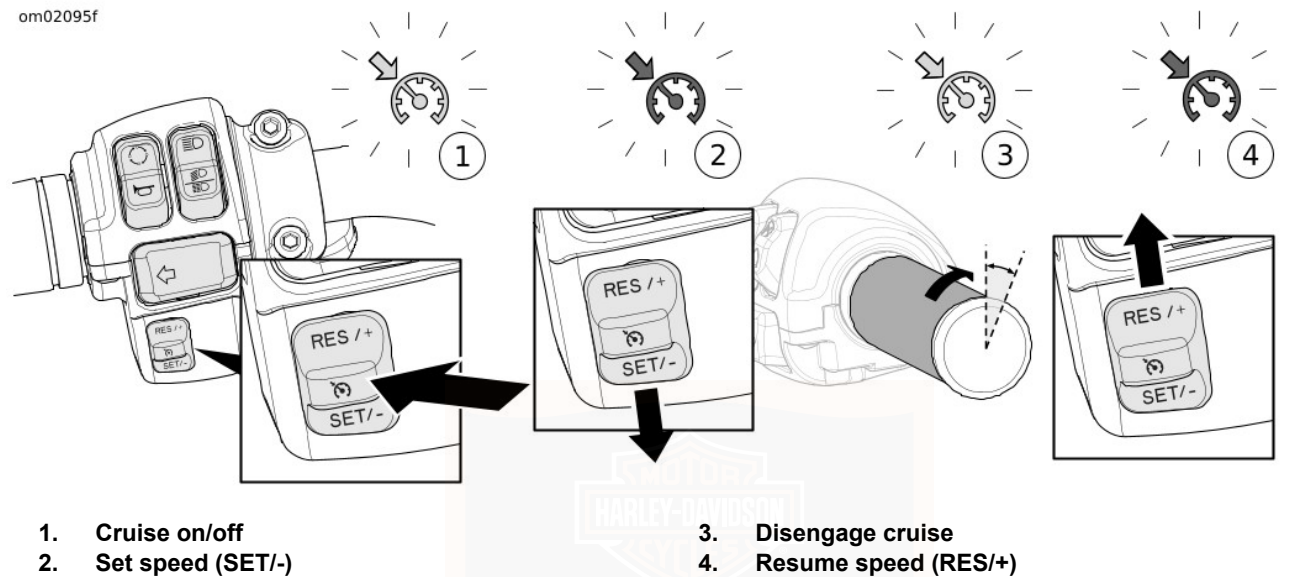

Figure 41. Cruise Control
See Figure 41. Press the CRUISE switch to turn on cruise (1). When on, the cruise icon in the speedometer face glows amber.
See Figure 41. When the motorcycle reaches your intended speed, press the SET/- switch to set the cruise speed (2). The amber cruise icon changes to green.
See Figure 41. To drop out of cruise speed, roll the throttle closed through the roll-off switch (3).
See Figure 41. If cruise has been disengaged yet the cruise indicator is amber, pressing the RES/+ switch resumes cruise (4). The icon glows green. The motorcycle automatically resumes cruise at the set speed.